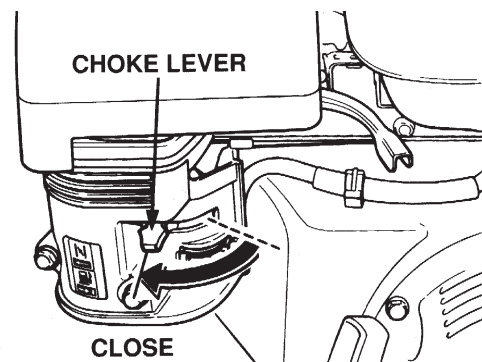

Figure 22. Choke Lever (Closed Position)
6. If operating the SP2S13H20A in **cold weather conditions**, place the **Choke Lever** (Figure 22) in the **CLOSED** position.
9. If the engine has started, slowly return the choke lever (Figure 22) to the **CLOSED** position. If the engine has not started repeat steps 1 through 8.